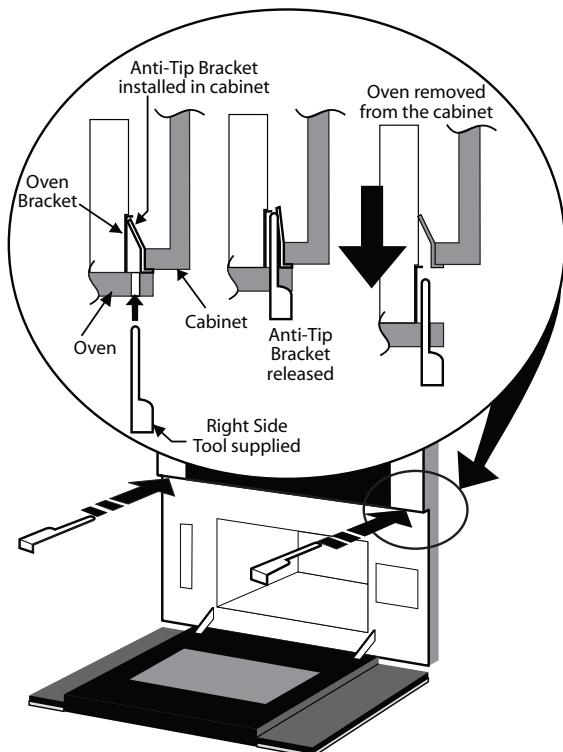

Figure 5
4. To pull out the oven for servicing, open the door and locate the two holes on the side frame. Simultaneously insert the tools provided with the appliance in both holes and pull the oven towards you. See Figure 5.